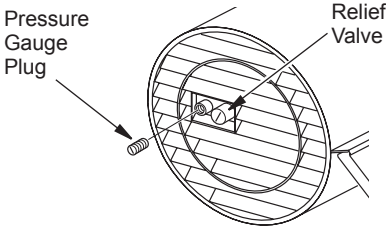

Figure 11 - Pressure Gauge Plug Removal
1. Remove pressure gauge plug from filter end cover (see Figure 11).